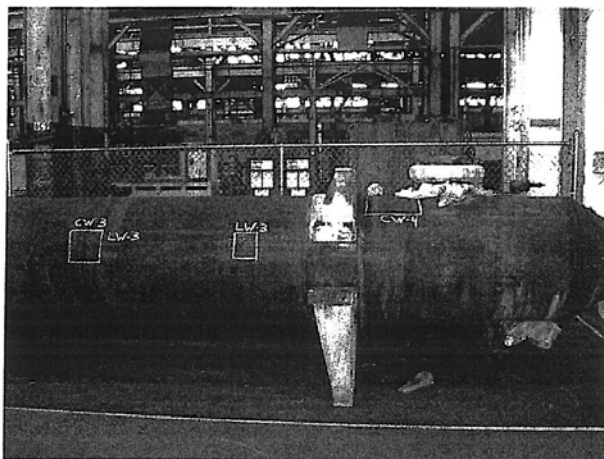
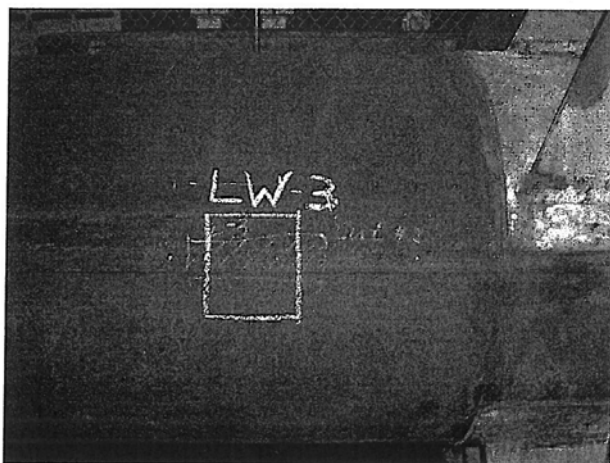
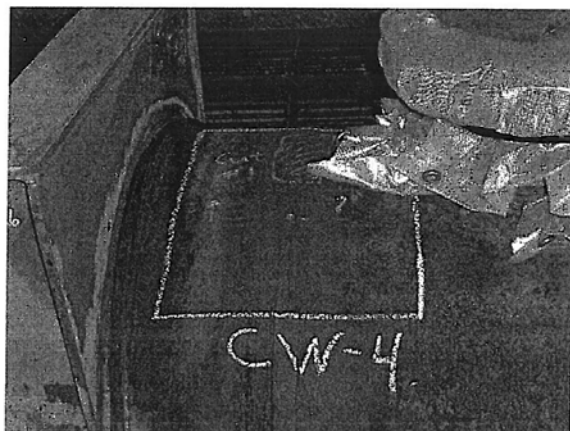
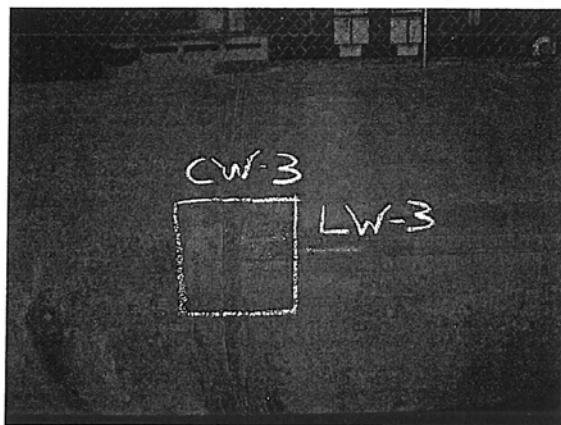

Figure 1: Overview of all three sample locations
Figure 2: Long Seam Sample, LW-3
Figure 3: Girth Weld Sample, CW-4
Figure 4: "T" Joint Weld Junction, CW-3/LW-3
Areas chosen for metallurgical examination in this sample plan are shown in Figure 1 with cut lines that have been marked on the exchanger by Tesoro or its designated representative. Chosen locations are the longitudinal weld seam LW3 (Figure 2), circumferential weld seam CW4 (Figure 3), and the weld seam "T" junction of LW3/CW3 (Figure 4). Two of those areas (Figures 2 and 3) are listed as containing weld zone indications in the Spectrum Inspection Report dated June 24, 2010, and one area that was chosen, Figure 4, was free of any reported indications. The following detailed sample plan replaces the first two bullet points under item 2 of the Exchanger B Shell Laboratory Examination Protocol: